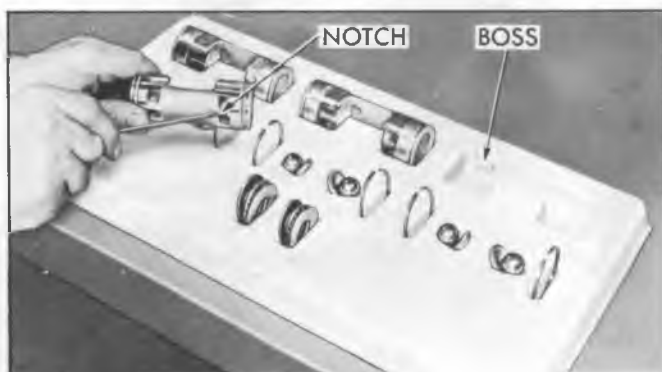

Fig. 20-Notch Identifying Front End of Piston
**NOTE:** The front of the piston may be identified by a notch in the casting web (fig. 20). The piston compartments in Tray J-9402 have a boss at this notch location to indicate the front.